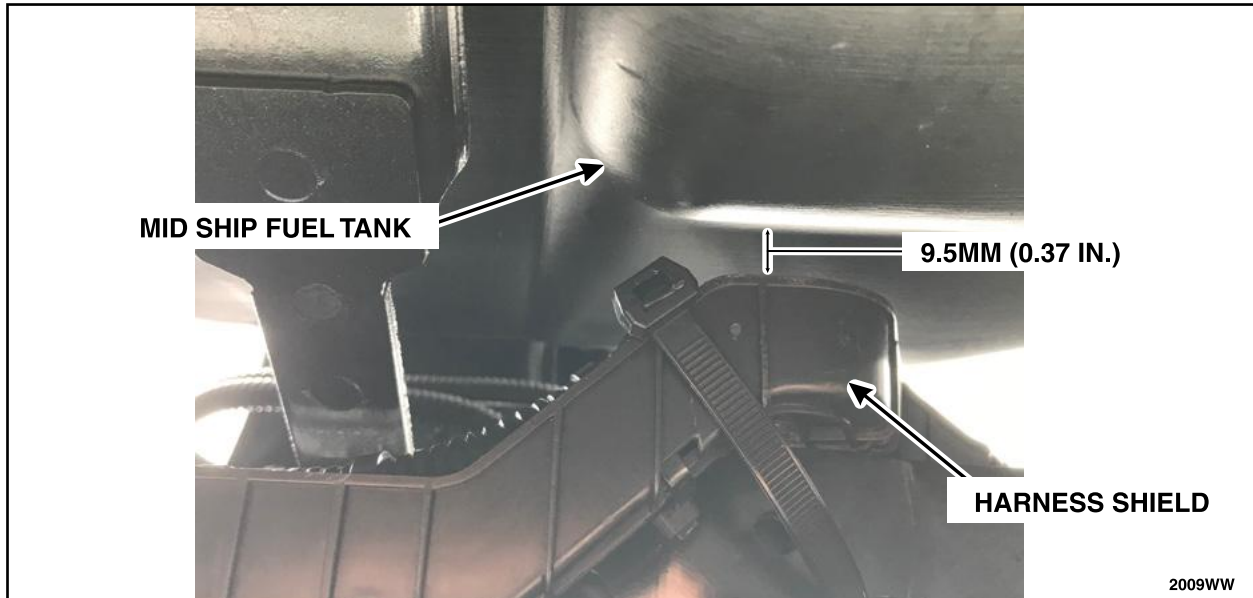

FIGURE 42
7. Using two (2) of the larger supplied tie straps, secure the harness shield to the reinforcement bracket using the existing holes in the reinforcement bracket.
8. Ensure that the wiring harness shield has at least 9.5mm (0.37 in.) of clearance from any contact to the mid ship fuel tank. See Figure 42.